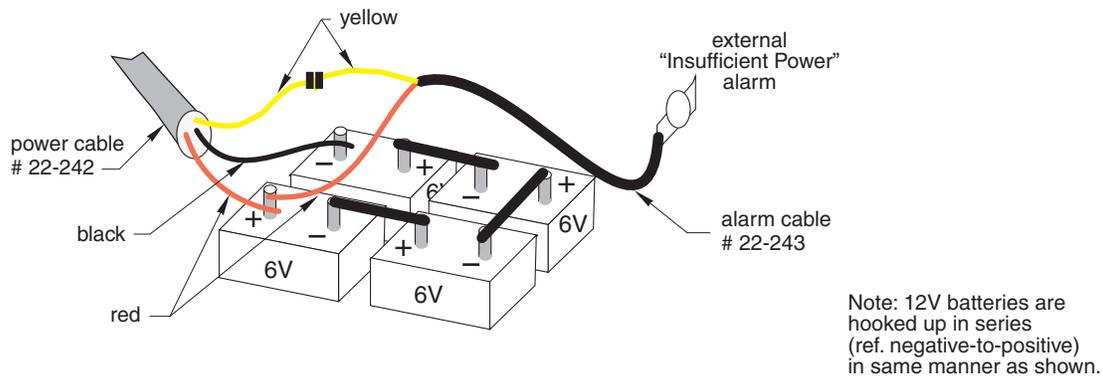

Figure 3. Power supply cable hookup
- **Batteries**—At sites where shore power is not available, a system of four 6V deep cycle batteries is recommended (see Figure 3). Four 6V batteries connected in series provides much more reserve capacity than two 12V batteries. Deep cycle batteries are necessary because they can withstand the many charge and discharge cycles which occur when operating the dB Plus II™ system. Consult your power supply manual for proper installation and maintenance of the power supply equipment.